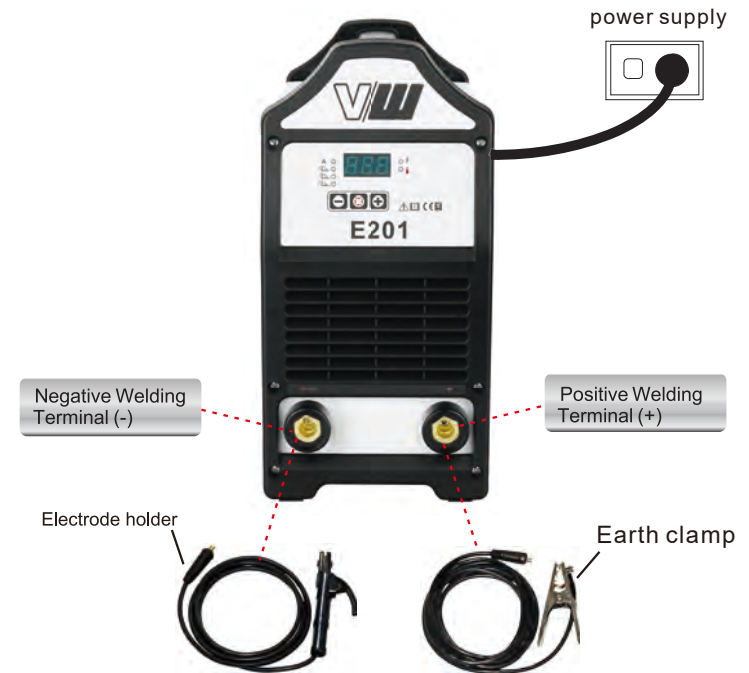

Figure:5-03
2. Attach the STICK and work earth clamp as shown in Refer to Figure 5-03